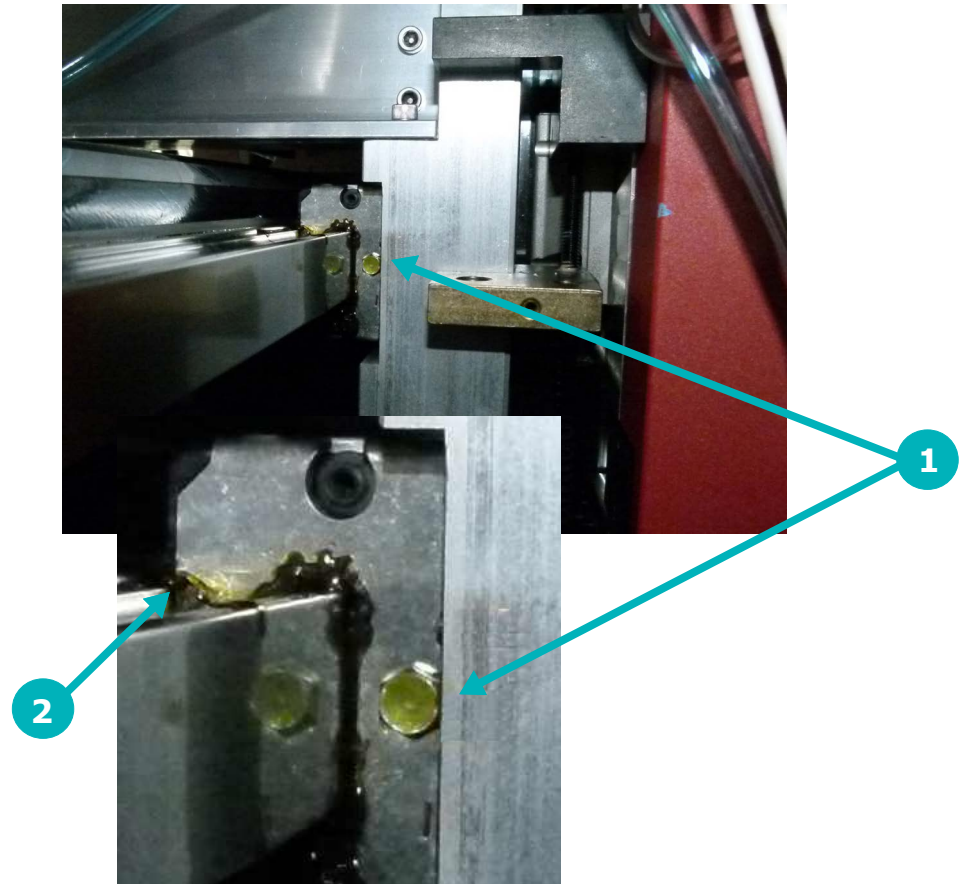

Figure 2-61: Greasing the carriage bearings
- B. Insert needle into grease fitting at carriage bearing ends, Figure 2-61, item 1.
- C. Apply until grease is visibly exiting bearing at position 2 in Figure 2-61.